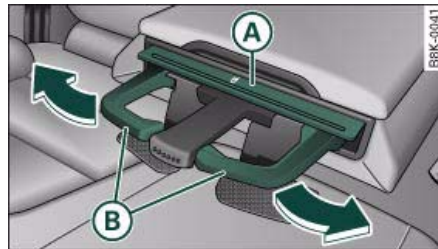

Fig. 94 Cup holder in
- Press the symbol  (A) ⇒ fig. 94.